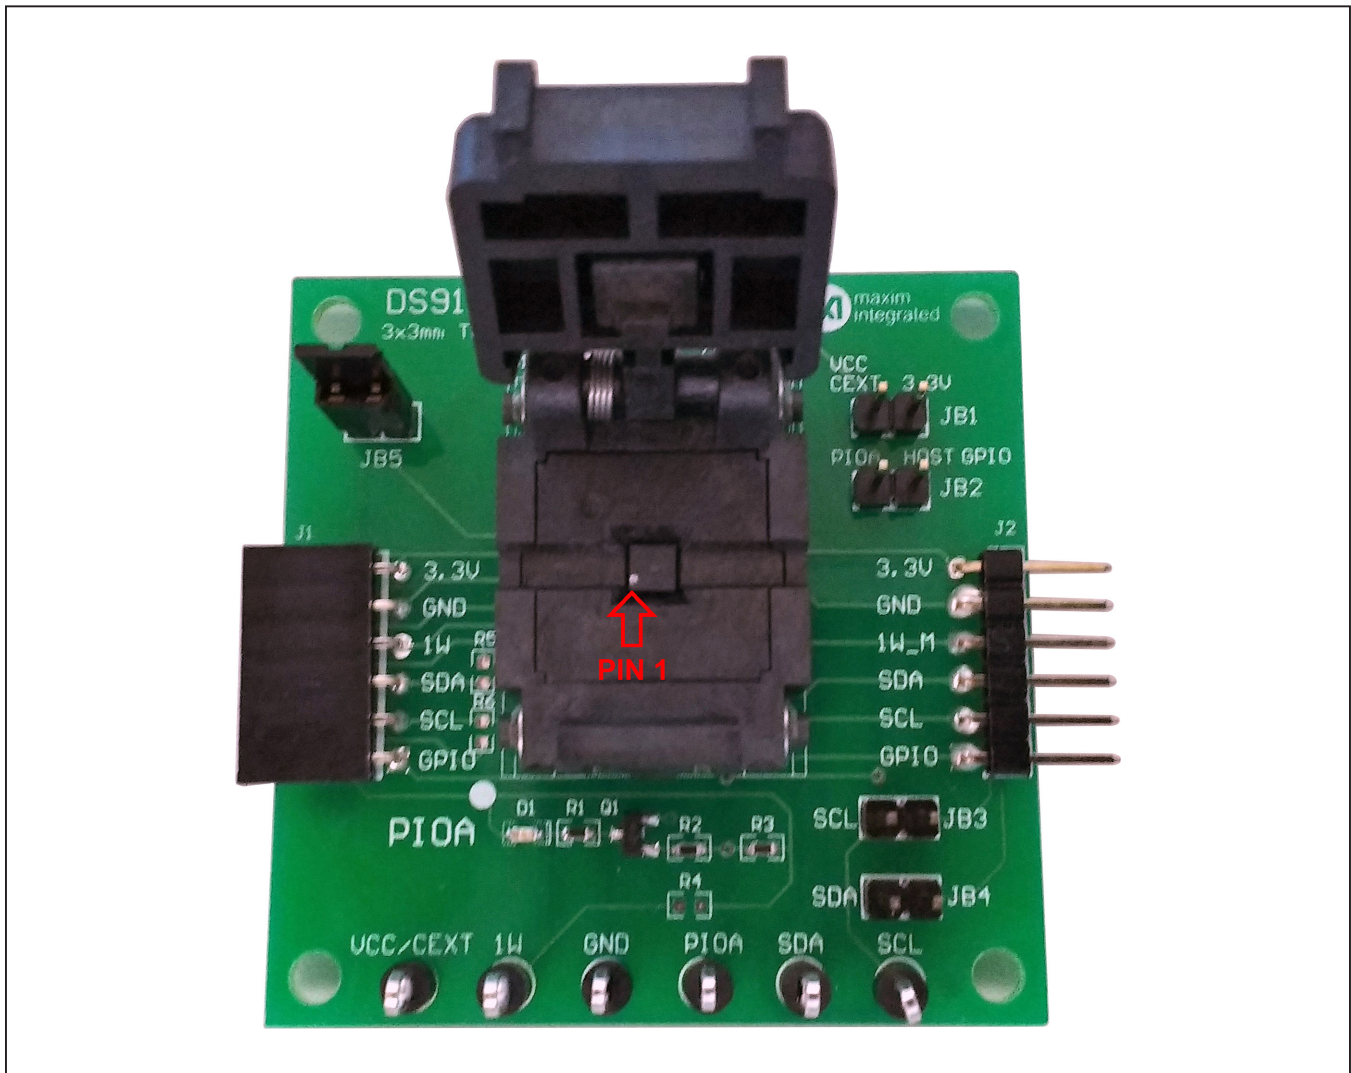

Figure 8. DS28E50 and DS2477 Orientation in Burn-In Socket
- a) (Optional—Perform only if using the coprocessor): Open the 1st socket and insert a DS2477 into one of the cavities, as shown in Figure 8. **Note:** The plus (+) must be oriented in the bottom left corner of the socket.
- b) Open the 2nd socket and insert a DS28E50 into the cavity, per the same orientation shown in Figure 8, with the plus (+) oriented in the bottom left corner of the socket.